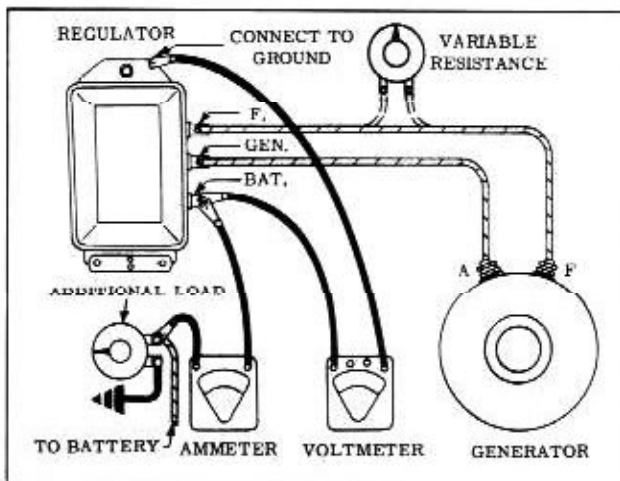

Fig. 13-17 Checking Current Regulator
- Connect an ammeter into the circuit as shown in Fig. 13-17.